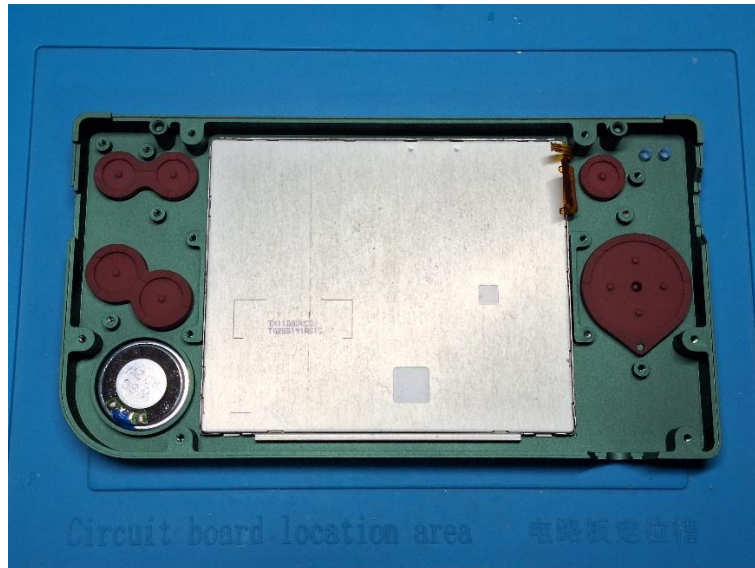

Figure 12: Buttons and membranes placed in front shell
4. Place the buttons and membranes into the corresponding cavity in the front shell as shown in Figure 12.